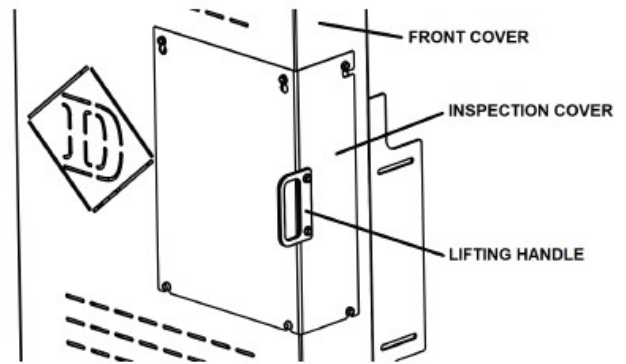

Figure 2 - Attach handle
2. For TXT/SCXT sizes 1 - 7, attach two front cover lifting handles to the front cover. For TXT sizes 8 - 12, equipped with an inspection cover, attach one handle to the inspection cover as shown in Figure 2. Insert and tighten the two mounting screws on each lifting handle. If equipped with an inspection cover, attach the inspection cover to the front cover and insert and tighten the six screws. See Table 1 for tightening torque of the bolts. Table 1 tightening torque applies to all mounting bolts on the belt guard.